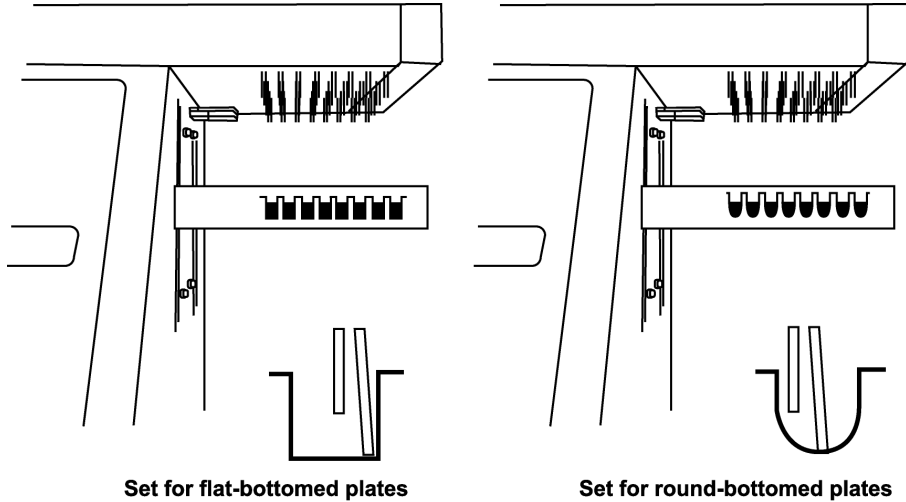

Figure 3: Microplate holder, flat- or round-bottom plates
- ◆ Select the appropriate plate type (round or flat-bottomed wells) in use by selecting the correct printed pattern on the side of the microplate holder (See Figure 3).